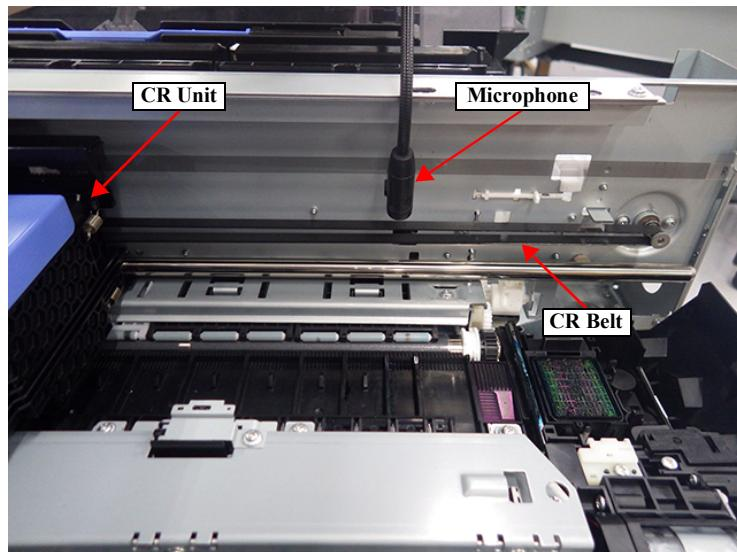

Figure 4-39. Measurement position
- Referring to Figure 4-39, bring the microphone of the tensimeter to the center of the CR Unit and tip of the CR belt (home side).